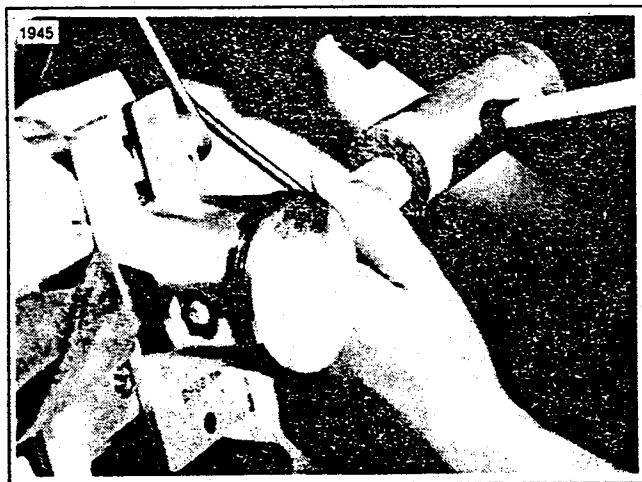

Figure 5-7. Removing the Piston
9. See Figure 5-7. Remove both piston pin retaining rings using pliers. Heat the piston pin bosses and remove the pin by drifting it out using the PISTON PIN TOOL, Part No. 96777-72.